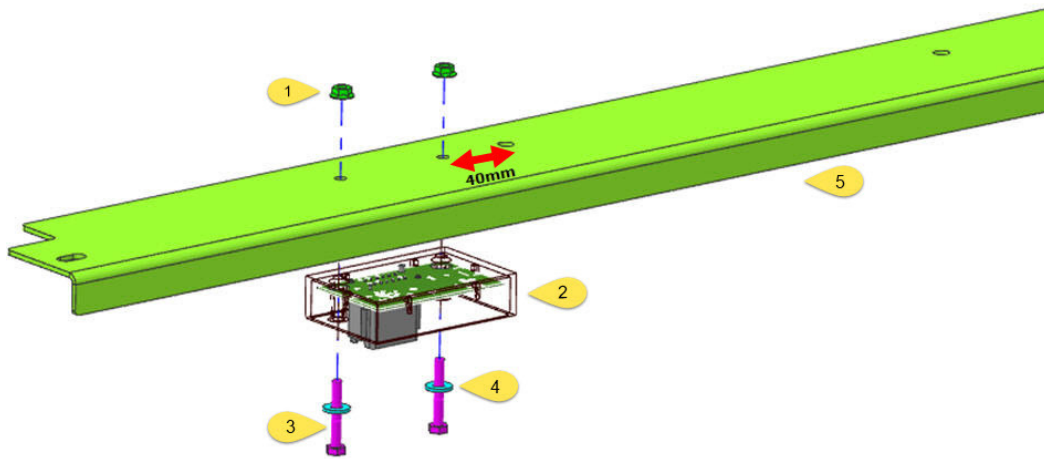

Figure 4 - Power Supply Mounting
- The first hole should be 40mm to the left of the first mounting hole [Figure 4]
- Using the supplied M6 nuts and bolts, mount the power supply to the interior of the harness cover [Figure 4]
#### 3.4.1.1 Part Numbers & Torque Settings [Figure 4]